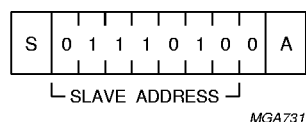
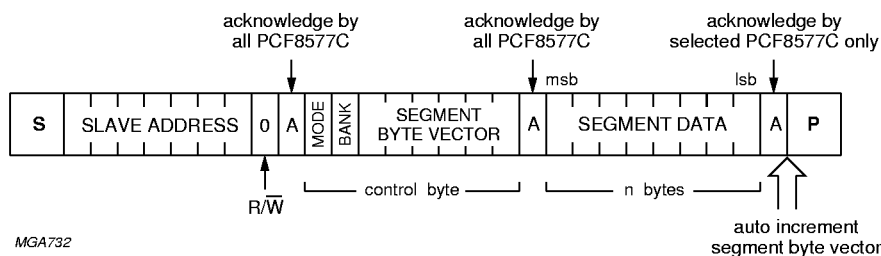

Fig.6 PCF8577C slave address.
Fig.7 I²C-bus protocol.
There is one slave address for the PCF8577C (see Fig.6). All addressed devices load the second byte into the control register and each device maintains an identical copy of the control byte in the control register at all times (see I²C-bus protocol, Fig.7), i.e. all addressed devices respond to control commands sent on the I²C-bus.
The PCF8577C slave address is shown in Fig.6.
The PCF8577C I²C-bus protocol is shown in Fig.7.
The PCF8577C is a slave receiver and has a fixed slave address (see Fig.6). All PCF8577Cs with the same slave address acknowledge the slave address in parallel. The second byte is always the control byte and is loaded into the control register of each PCF8577C connected to the I²C-bus. All addressed devices acknowledge the control byte. Subsequent data bytes are loaded into the segment registers of the selected device. Any number of data bytes may be loaded in one transfer and in an expanded system rollover of the SBV from 111 111 to 000 000 is allowed. If a stop (P) condition is given after the control byte acknowledge the segment data will remain unchanged. This allows the BANK bit to be toggled without changing the segment register contents. During loading of segment data only the selected PCF8577C gives an acknowledge. Loading is terminated by generating a stop (P) condition.